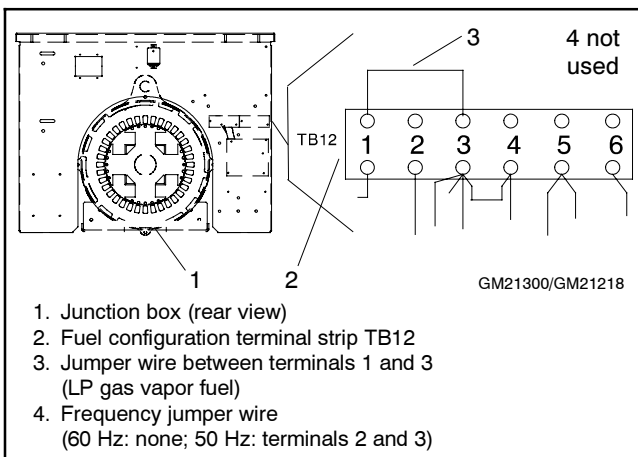

Figure 9-37 Fuel Configuration Jumper Wire (LP Fuel, 60 Hz, 30 kW [3.0 L] Model)
- 30 kW model with 3.0 L engine only.** Attach a user-supplied 18 ga. jumper wire between terminals 1 and 3 (LP gas vapor fuel). See Figure 9-37 for frequency jumper wire requirements.